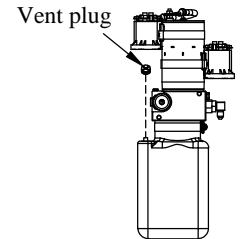

Figure 2: Vent plug.
4. **Unscrew** the solid plastic plug from the pump reservoir and **Install** the vent plug provided, if not already installed (Figure 2).